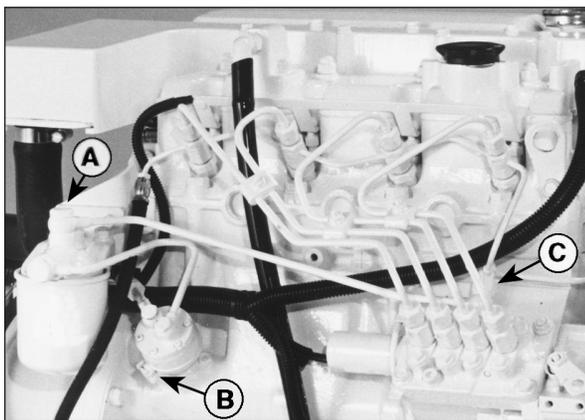

Figure 10: Fuel System.
2. Loosen bleed bolt “A” (Figure 10) on top of the filter. Pump hand primer “B” on fuel lift pump until pure fuel (no bubbles) escapes from bleed bolt “A”. Tighten bleed screw “A”.